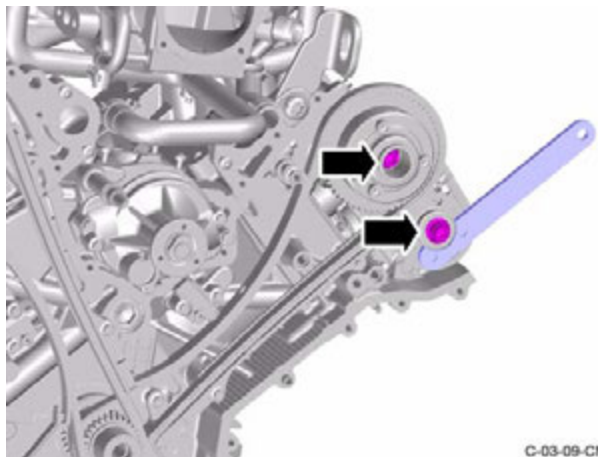

Figure 26
9. Tighten the two Torx bolts that attach the camshaft sprockets to the camshafts 90 degrees more (refer to Figure 26).